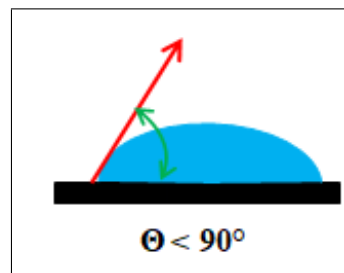

Figure 3.8: Partial wetting.
- $\theta < \frac{\pi}{2}$; Partial wetting (Figure 3.8).